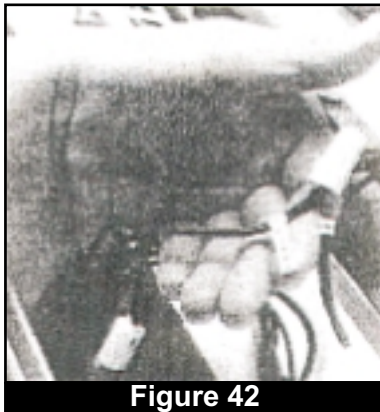

Figure 42
4. Mark all the wires connected to the fan blower motor(s) with a color code or number to make proper re-connection easy. (Fig. 42)